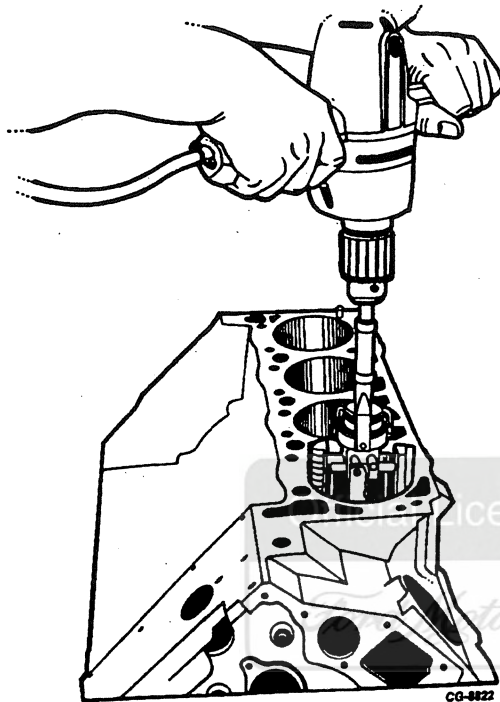

Figure 6.47. Honing Cylinder Bore Using Appropriate Cylinder Hone (SE-1574)
13. However, if the wear exceeds the taper and out-of-round limits, it is recommended to rebore the cylinder or cylinders to within 0.003" of the required oversize diameter, Figure 6.46. This will allow enough stock for the final step of honing the bores, Figure 6.47, so that the exact clearance may be obtained for the selected oversize piston. When performing the honing operation, the hone should be stroked up and down to produce a crosshatch pattern on the cylinder wall as shown in Figure 6.45. The faster the hone rotates, the faster it must be stroked up and down to produce the desired crosshatch pattern.